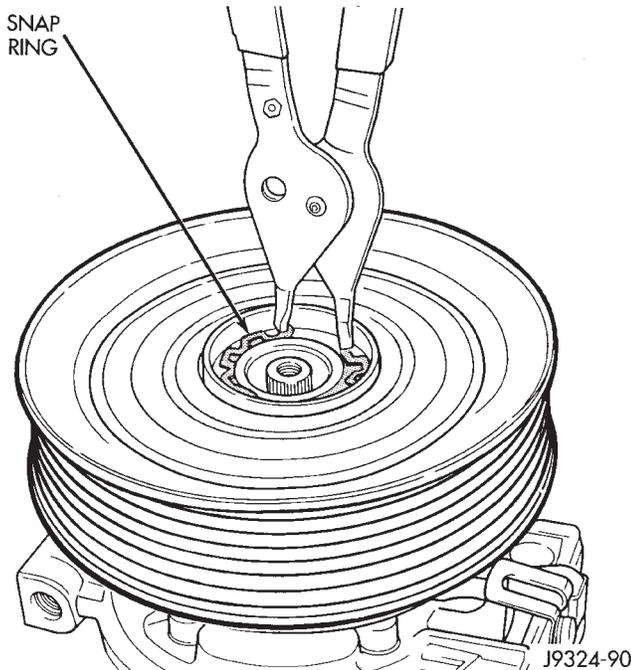

Fig. 32 Pulley Snap Ring Remove/Install
(5) Remove the external snap ring that secures the compressor clutch pulley to the nose of the compressor front housing with snap ring pliers (Special Tool C-4574) and slide the pulley assembly off of the compressor (Fig. 32).